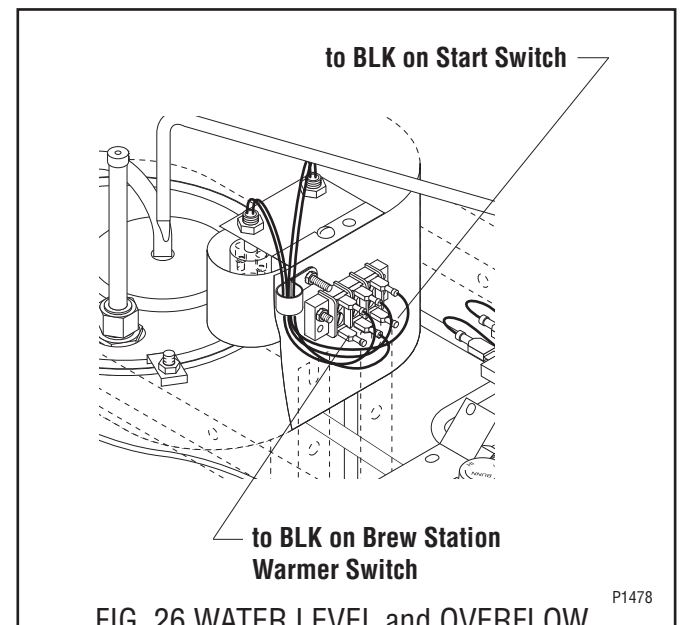

FIG. 26 WATER LEVEL and OVERFLOW SAFETY SWITCH WIRING
9. Refer to FIG. 26 and the relative wiring diagram when reconnecting wires.